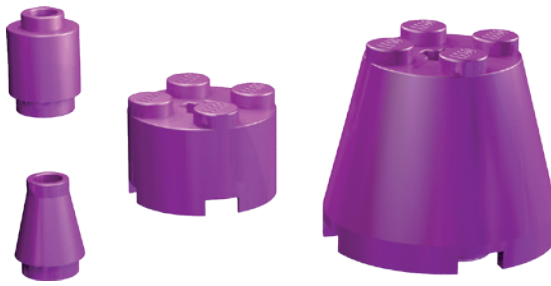

Figure 1-14: The standard vertical-walled elements are cylinders, and the sloped versions are cones.
*Cylinder elements* have a cylindrical shape, like a coffee can or a drum (see Figure 1-14). *Cones*, on the other hand, are sort of like upside-down ice cream cones. Although only a few elements fall into the standard cylinder or cone categories, what they lack in number they make up for in usefulness.